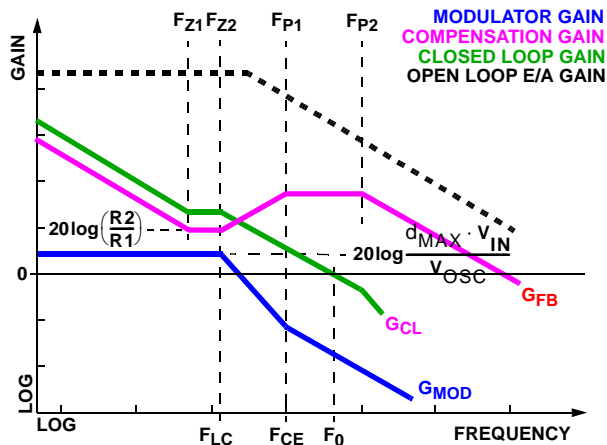

FIGURE 10. ASYMPTOTIC BODE PLOT OF CONVERTER GAIN
Figure 10 shows an asymptotic plot of the DC/DC converter's gain vs. frequency. The actual Modulator Gain has a high gain peak dependent on the quality factor (Q) of the output filter,
which can be found at 查询代理商 above guidelines should yield a compensation gain similar to the curve plotted. The open loop error amplifier gain bounds the compensation gain. Check the compensation gain at F_{P2} against the capabilities of the error amplifier. The closed loop gain, G_{CL} , is constructed on the log-log graph of Figure 10 by adding the modulator gain, G_{MOD} (in dB), to the feedback compensation gain, G_{FB} (in dB). This is equivalent to multiplying the modulator transfer function and the compensation transfer function and then plotting the resulting gain.